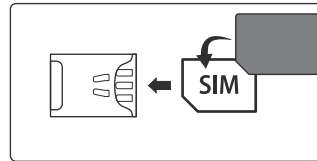

Fig. 52
1. Viewing the back of the GSM module place the nano SIM on the SIM icon, with the SIM contacts facing down and following the SIM orientation, as shown in **Fig.52**.